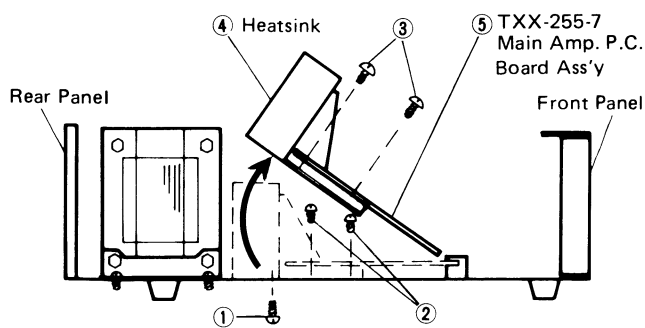

Fig. 2
- Step 1: Remove the bottom plate from chassis and 2 screws ① from heatsink ④.
- Step 2: Remove 4 screws ②.
- Step 3: Raise TXX-255-7 ⑤ from chassis as arrowed on Fig. 2 and then resolder the power transistor's leads.
- Step 4: Remove 4 screws ③ and heatsink from TXX-255-7 and then replace the power transistors.